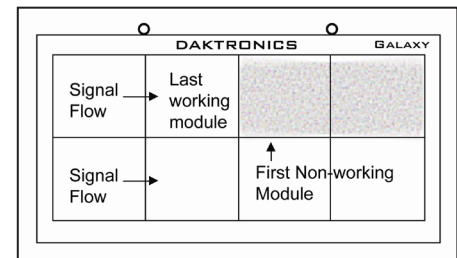

Figure 12: Modules Not Working
One or more LEDs on a single module will not turn off. **Figure 12: Modules Not Working**
- Check/replace ribbon cables from the last working module in the row to the first non-working module next to it. Refer to **Figure 12** for an example.